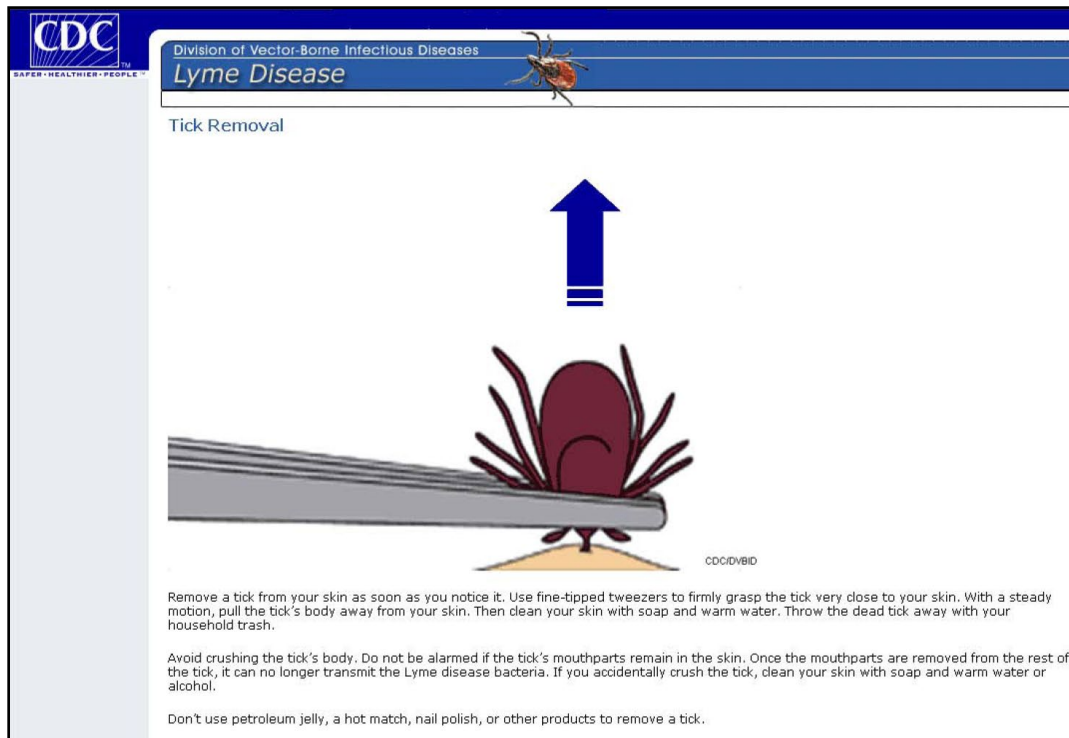

Figure S1.2. Centers for Disease Control recommended procedures for tick removal.
- If you find a tick that is already embedded, use fine-tipped tweezers or a spoon-shaped tick remover to firmly grasp the tick close to your skin (Figure S1.2). Slowly and steadily pull the tick's body away from your skin. Do not twist or jerk the tick, as it may break off the head and leave it embedded. Be careful not to crush the tick's body to minimize the chances of it regurgitating fluids into the wound. Clean the bite area once the tick is removed with soap and water. Do not use heat or harsh fluids to get ticks to back out of skin.